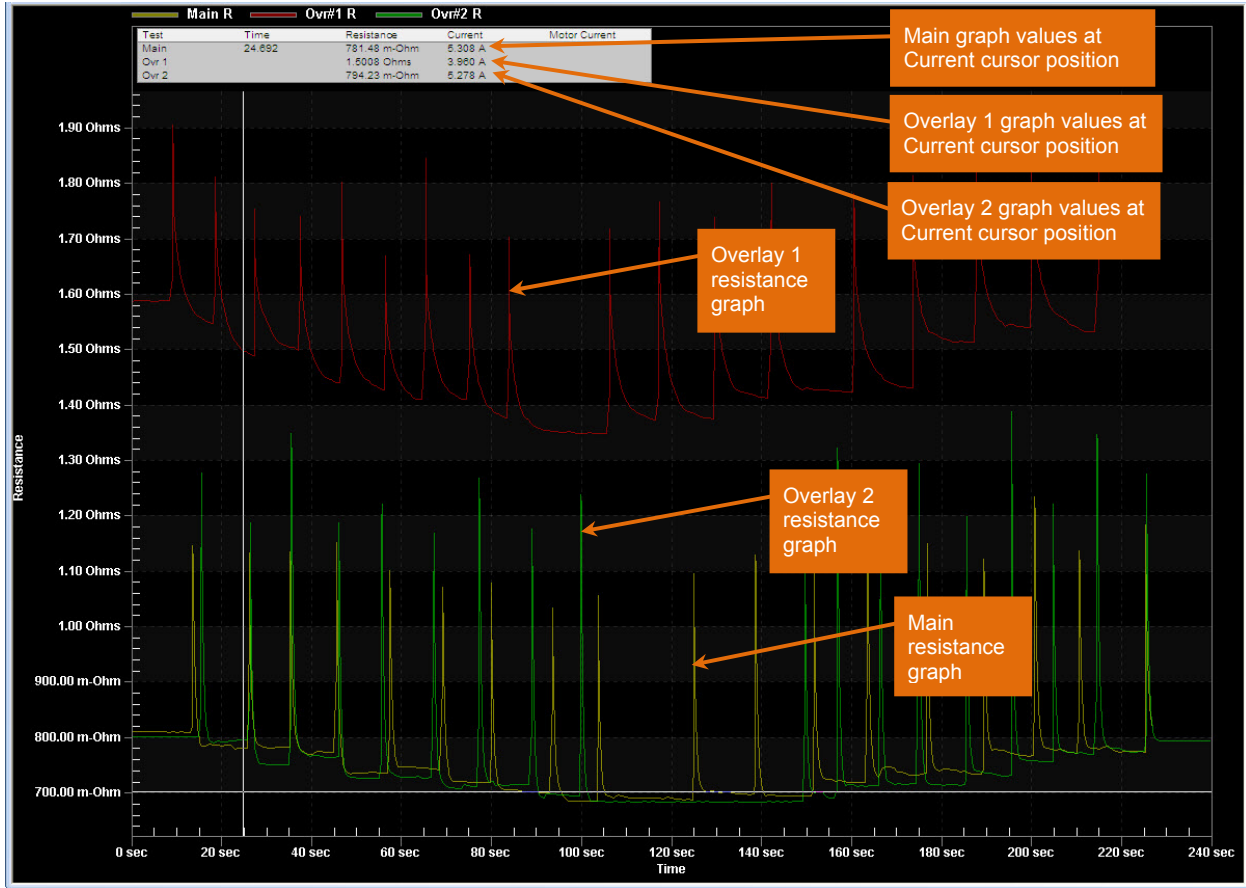

Figure 1. Typical Dynamic Resistance Graph with Two Overlays
3. The selected test records' graphs will be overlain on top of the main test record's graph. Figure 1 shows a typical dynamic resistance graph with one overlay. Figure 2 shows a typical static resistance graph with one overlay.